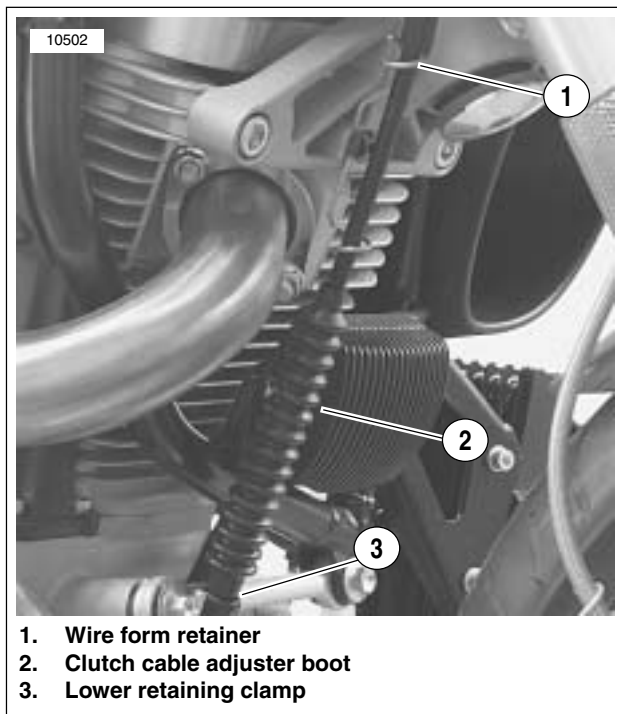

Figure 3-20. Clutch Cable Retaining Clamps and Adjuster Boot
20. See Figure 3-20. Disconnect clutch cable from handlebars.